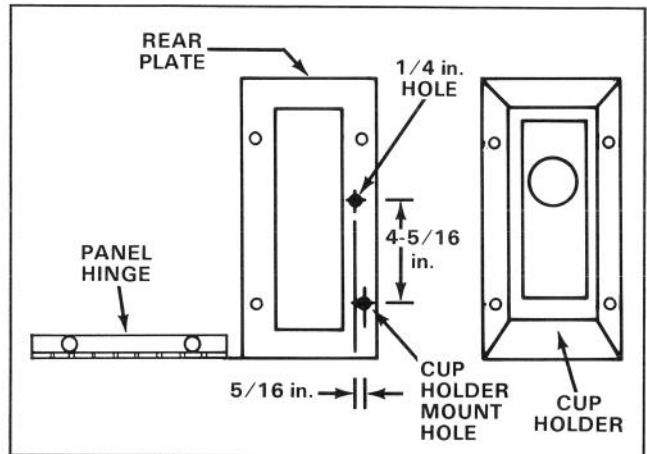

Figure 5
1. Remove the cup holder assembly at the rear of the control box assembly (Fig. 5).
2. Locate the cup holder mount hole rearward of the control panel hinge (Fig. 5). Measure 5/16 in. forward from the hole center and scribe a line fully across the plate (Fig. 5).
3. From the center of the cup holder mount hole, measure 4-5/16 in. on the scribed line. Center punch and drill a 1/4 in. hole (Fig. 5).